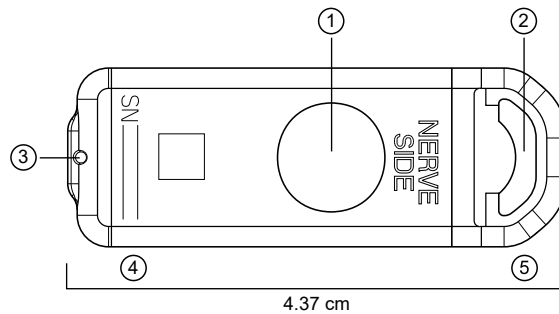

Figure 14. Features of the Model P7850N Altaviva neurostimulator
- ① Pass the open end of the suture through the suture hole. ② Do not pass the needle through the suture hole to pass the suture.
7. With the pocket dissector removed, insert the distal (stimulation electrode) end of the neurostimulator into the pocket with the Medtronic logo facing out towards the skin, and the "NERVE SIDE" logo facing towards the fascia and nerve (Figure 14). Advance the neurostimulator distally until the neurostimulator is not visible under the incision.